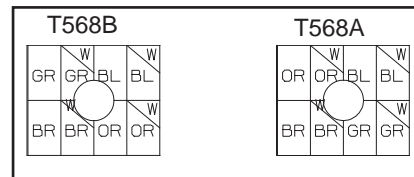

FIG. 2
- 2.2. Starting at the bottom corner of the panel, where the cables feed, lace pairs into the appropriate IDC following the Universal Wiring Label for T568A or T568B wiring schemes (see FIG. 2) and work to the middle of the panel.